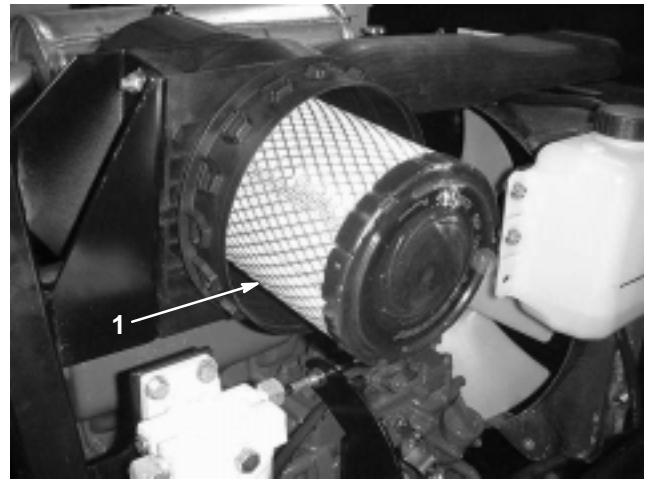
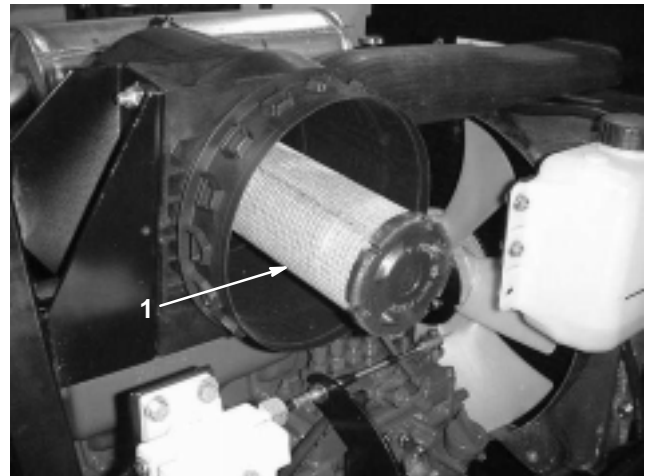

Figure 29
Figure 30
2. Gently slide the primary filter (Fig. 29) out of the air cleaner body to reduce the amount of dust dislodged. Avoid knocking the filter against the air cleaner body. **Do not** remove the safety filter (Fig. 30).
Important Never attempt to clean the safety filter (Fig. 30). Replace the safety filter with a new one after every three primary filter services.